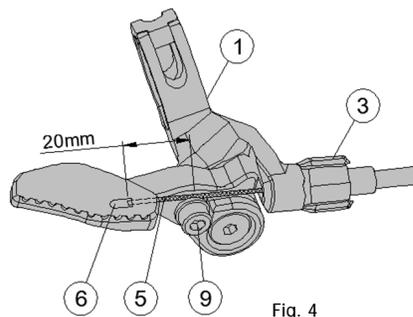

Fig. 4
10. Slide Cable ⑤ into remote lever Barrel adjuster ③. Use 3mm hex wrench to loosen Remote clamp bolt ⑨. (Fig. 4)
11. Install Cable ⑤ under Remote clamp bolt ⑨. Use 3mm hex wrench to tighten Remote clamp bolt ⑨ to 15 kgf.cm / 1.5 Nm / 13 in.lbs. (Fig. 4)
12. Check that cable housing is completely seated in Barrel Adjuster ③ at remote. (Fig. 4)
13. Cut cable leaving 20mm of cable past Remote clamp bolt ⑨. (Fig. 4)
14. Install Cable end cap ⑥ and bend cable end into cable holder. (Fig. 4)
15. Use Barrel adjuster ③ to adjust cable tension so that remote lever has no free play. (Fig. 4)